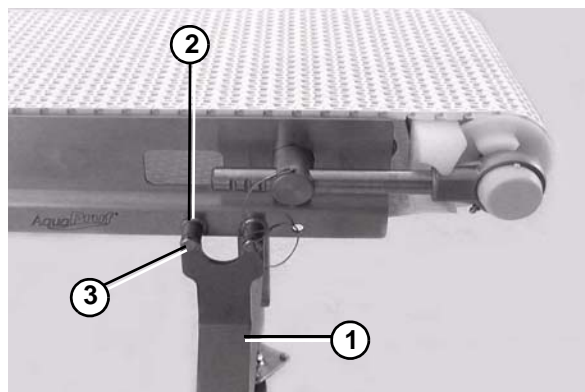

Figure 11
2. Attach the stand (**Figure 11, item 1**) to the conveyor’s welded standoffs (**Figure 11, item 2**) using four M10-1.5 x 16 mm hex head cap screws (**Figure 11, item 3**).
3. Tighten the stand screws (**Figure 11, item 3**) to 80 in•lb (9 N•m).